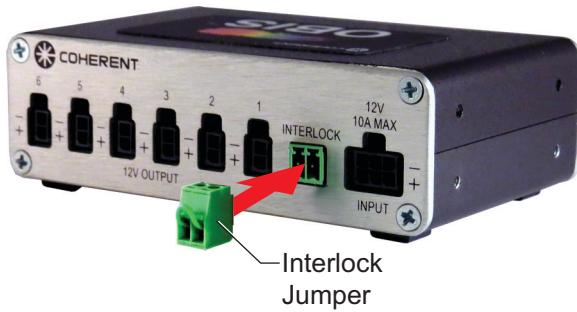

Figure 2-13. OBIS 6-Laser Remote Connecting the Interlock Jumper
5. Connect the Interlock jumper to the OBIS 6-Laser Remote, as shown in Figure 2-13. For interlock details and specifications, refer to "Interlock Control" (p. 30).